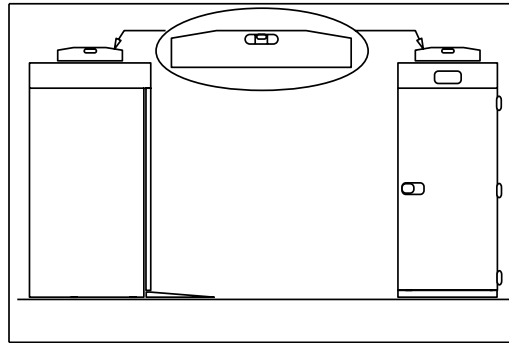

Fig.5
- position the blast chiller using a level ( Fig. 5 )